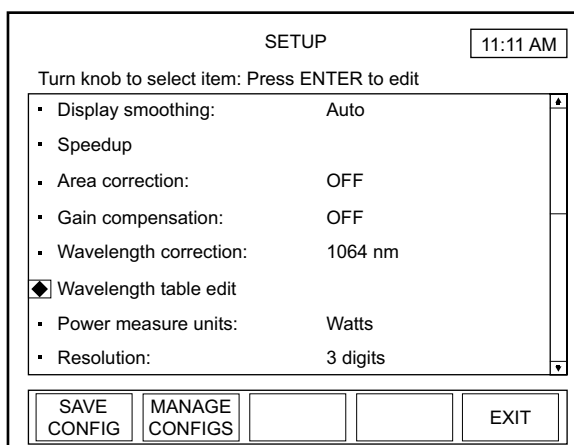

Figure 4-36. SETUP: Wavelength Table Edit
1. On the main SETUP screen, turn the Selection knob to move the diamond indicator to Wavelength Table Edit (Figure 4-36).